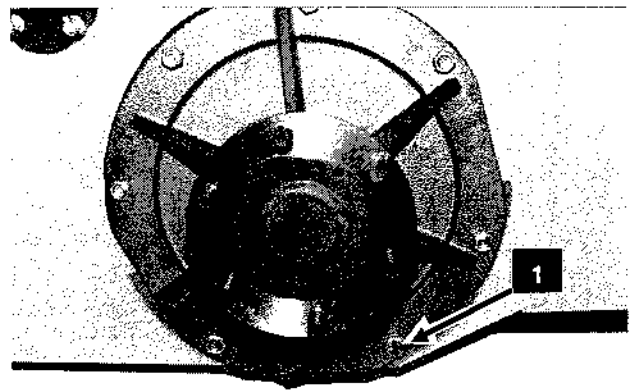

Fig. 43: 3725/3825 Chaincase Drain Plug
## Change Chaincase Oil (See Figs. 43 & 44)
3. Remove Rear Wheels to gain access to the Chaincase Oil Drain Plug. The Plug is the lower rear bolt of the rear Axle Housing. See Fig. 43.